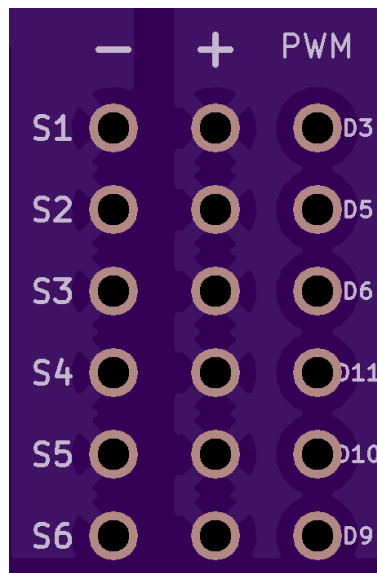

Figure 26: Servo mount thru-holes
5. Solder the other half of the servo wires to the below thru-holes. Brown is negative, red is positive, and yellow is PWM (**Figure 26**).